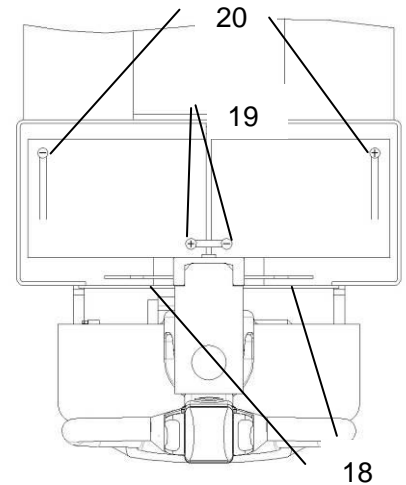

Fig. 14: Battery replacement
Park the truck securely and switch off the truck with the combined emergency switch (3). Loosen the main cover with the 2 screws (18, fig. 14).
After closing the hydraulic tank with the closing cap (21, fig. 15, only EFET33N), unbolt the the screws of the negative terminal (19, fig. 14) firstly, then unbolt the screws of the positive terminal (20, fig. 14) and put the cables aside.
Remove the battery fixing elements (26, fig. 15) and remove the batteries. Place the new batteries with the terminal- positions according to fig. 14.